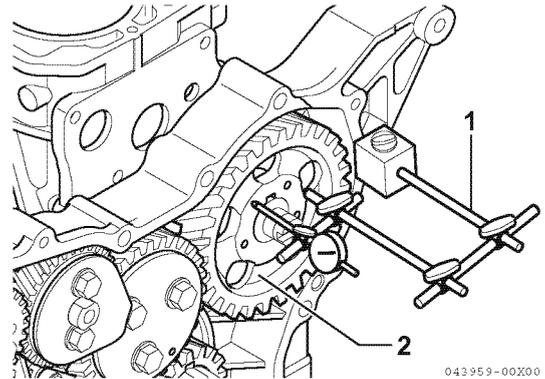

Figure 6-52
- **Method A:** Install a dial indicator (1, **Figure 6-52**) on the cylinder block. Move the camshaft (2, **Figure 6-52**) back and forth to measure the end play. Record the measurement. See *Camshaft* on page 6-7 for the service limit.